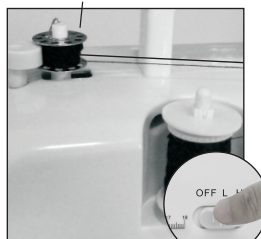

Fig. 15
5. Switch on the machine to start winding. (Fig. 15)